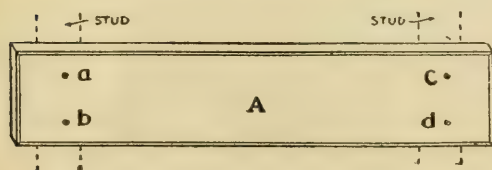
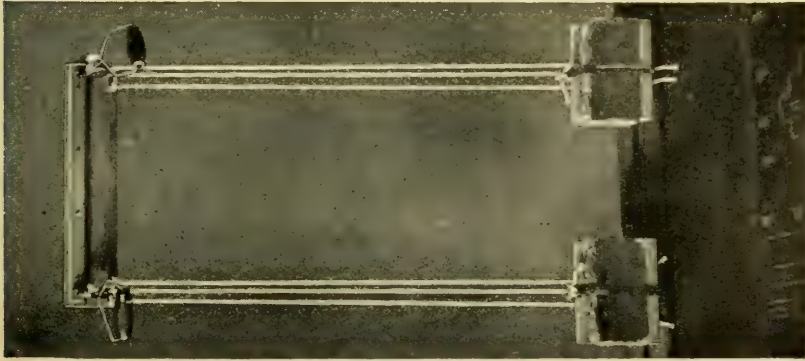

FIG. 207. — Screw the Cross-piece of Chest-weight to Wall Studs like this.
FIG. 206. CONSTRUCT
**A Chest-weight**, or "exercising machine," as some boys call it, is shown in Fig. 206, and Figs. 207, 208, and 209
made of wood and plaster,—locate two of the studs (Fig. 207). Tap upon the plaster with a hammer until you find a portion that sounds solid, make a mark there, then measure 16 inches to the left or right of it, and the chances are you will find the second stud at that point, as studding is generally placed 16 inches from center to center. If the wall is brick, locate two of the vertical strips to
which the laths are nailed. For cross-piece *A* (Figs. 207 and 208) cut a 1-inch piece of oak, pine, or whitewood, 4 inches wide and 20 inches long, plane it up and bevel its
A Rack for your Dumb-bells, Indian Clubs, and Wand may be made like the one illustrated by Fig. 221. Board *A* is the same size as board *A* of the *Chest-weight* (Fig. 207) and is spiked to the studs in the same way, while board *B* is 2 inches shorter and 2½ inches wide. Make the places for the *bells*, *clubs*, and *wand* to set in as shown in Fig. 222, cutting them as described for the *Chinning-bar* socket *B* (Fig. 216). Screw strip *A* to strip *B*.